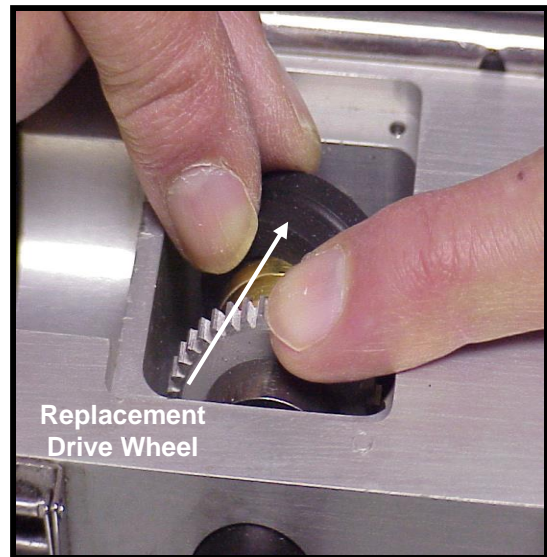

Figure 37
13.5.1.5 Push replacement Drive Wheel onto the Hub. See Fig. 37.